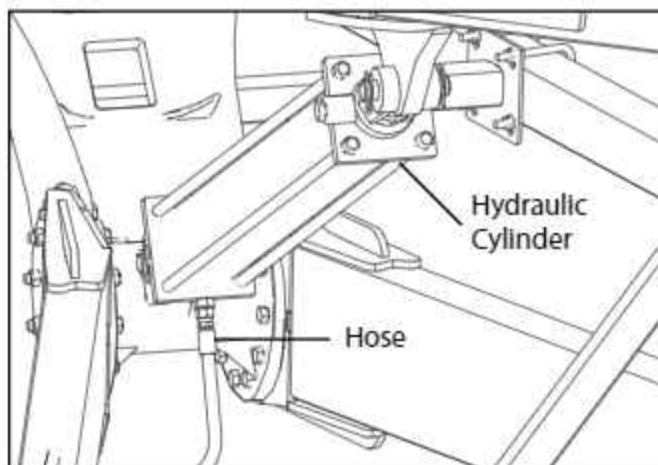

FIG. 3-26. Hydra. Hose to the Cylinder
5. Attach the female end of the hydraulic hose to the fitting in the base end of the cylinder. See Fig. 3-26.